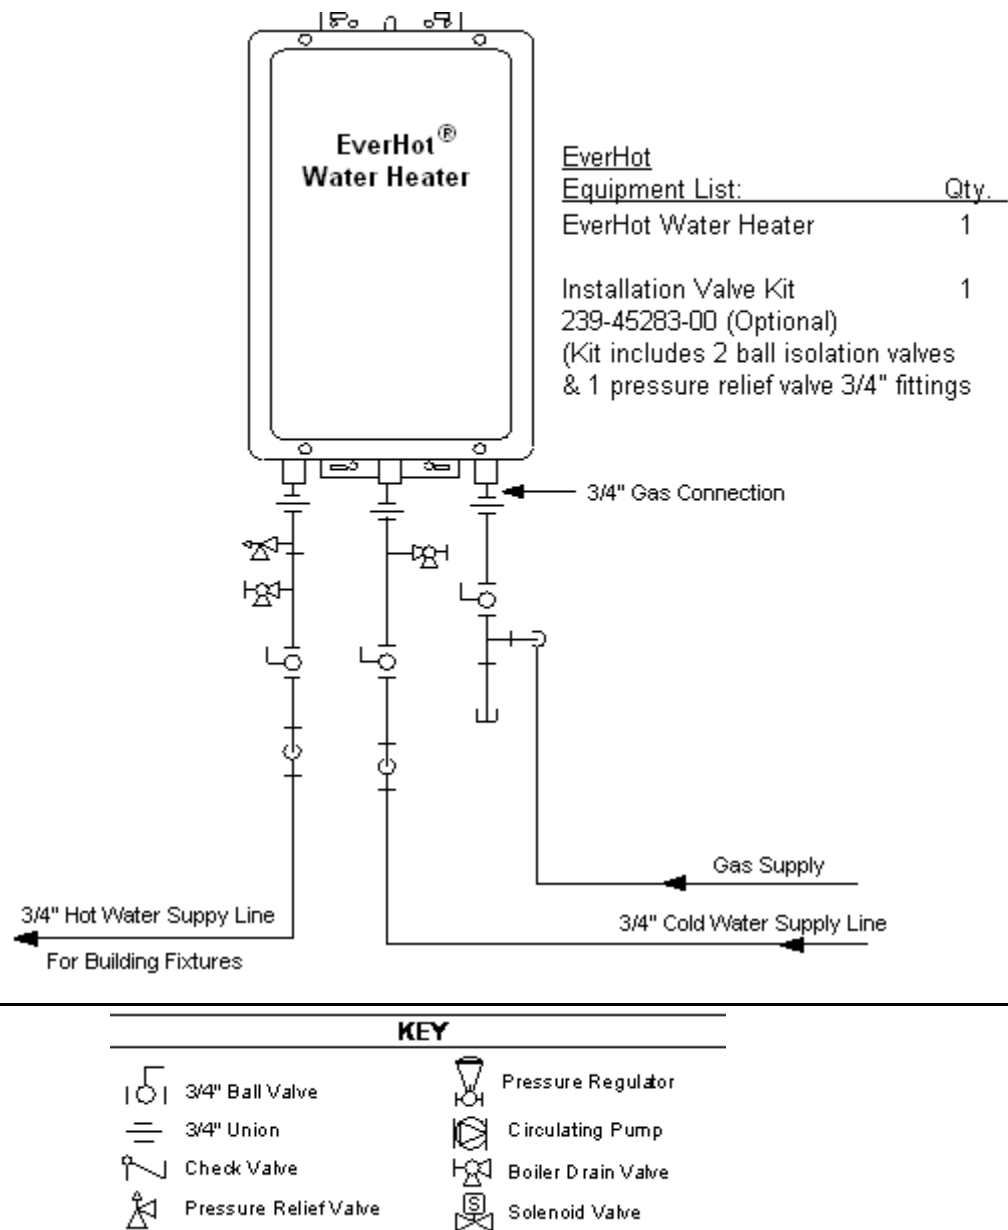
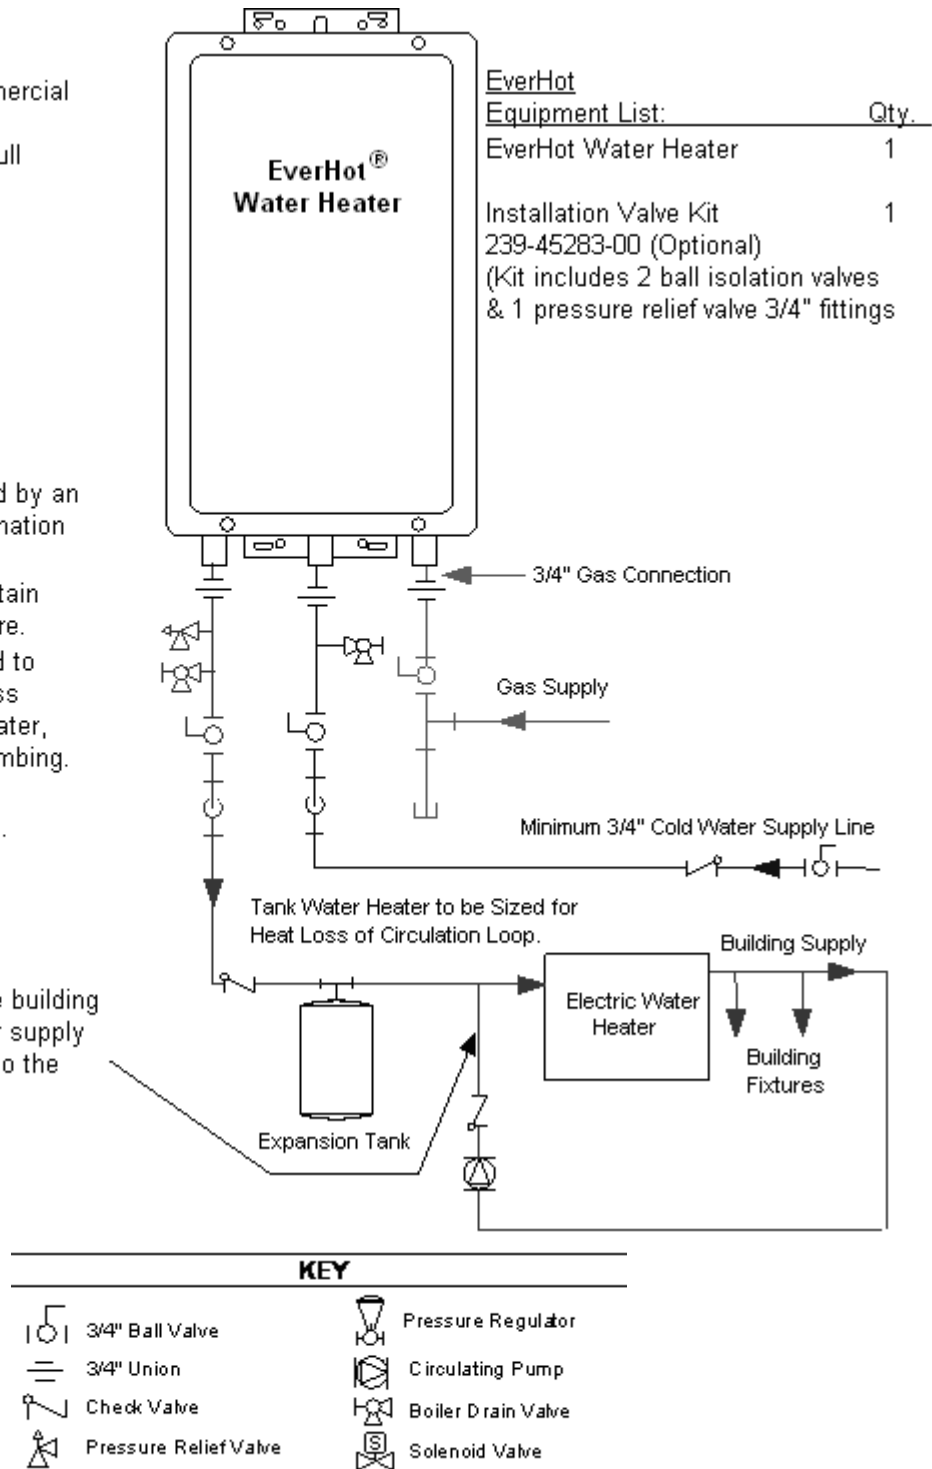

Figure 6. Recommended Piping for a Basic Installation.
Figure 7. Recommended Piping for a Circulation Systems.
3. Install a pressure relief valve on a tee connection from the hot water outlet piping from the water heater. Refer to the piping diagrams (Figure 6 and Figure 7) and pressure relief valve warning in Section IV, "Water Connections."